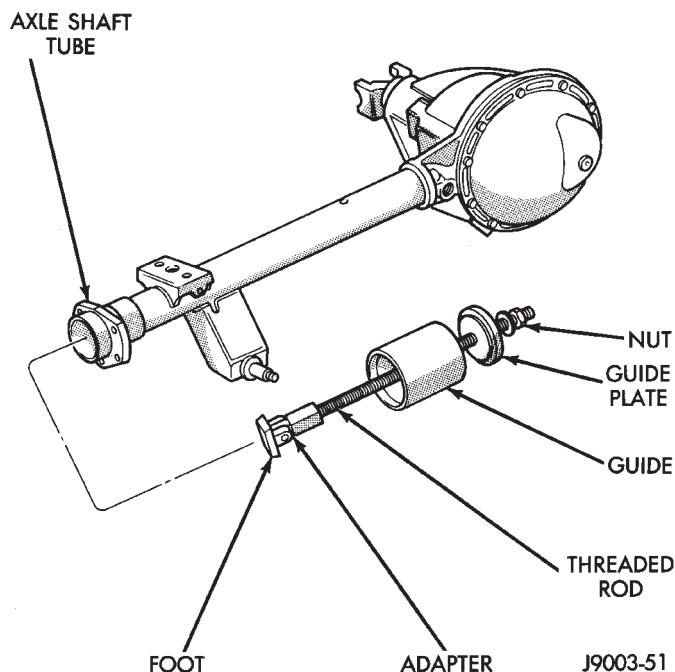

Fig. 14 Axle Shaft Bearing Removal Tool
- (1) Remove the axle shaft. Refer to the Removal procedures in this Group.
- (2) Remove the axle shaft seal from the end of the axle shaft tube with a small pry bar.
- (3) Remove the bearing if it appears damaged.
- (4) Remove the axle shaft bearing from the tube (Fig. 14) with Bearing Removal Tool Set 6310.
- (5) Inspect the axle shaft tube bore for roughness and burrs. Remove as necessary.